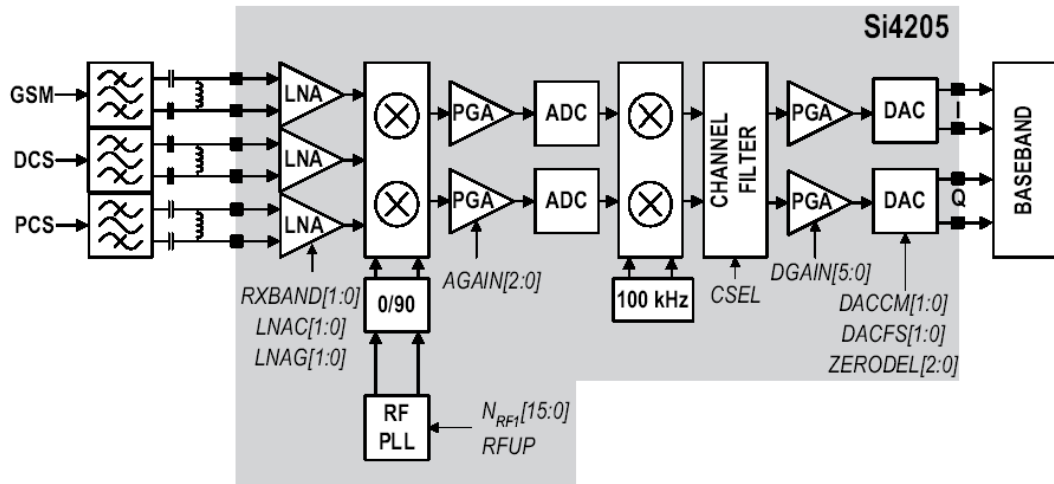

Figure. 3-2 SI4205 RECEIVER PART
The LNA inputs are matched to the 150Ω balanced output SAW filters through external LC matching networks. The LNA gain is controlled with the LNAG[1:0] and LNAC[1:0] bits in register 05h (Figure 3-2).
B. Intermediate frequency (IF) and Demodulation
A quadrature image-reject mixer downconverts the RF signal to a 100KHz intermediate frequency (IF) with the RFLO from the frequency synthesizer. The RFLO frequency is between 1737.8 to 1989.9 MHz, and is internally divided by 2 for GSM 850 and E-GSM 900 modes. The mixer output is amplified with an analog programmable gain amplifier (PGA), which is controlled with the AGAIN[2:0] bits in register 05h (Figure3-2). The quadrature IF signal is digitized with high resolution A/D converters (ADCs).